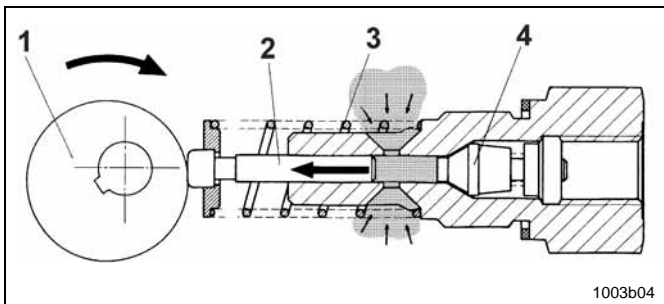

Fig. 7 The pump element sucks in lubricant
- The electric motor drives the eccentric (pos. 1, Fig. 7 and 8).
- piston 2 sucks in lubricant from the reservoir, (see Fig. 7).